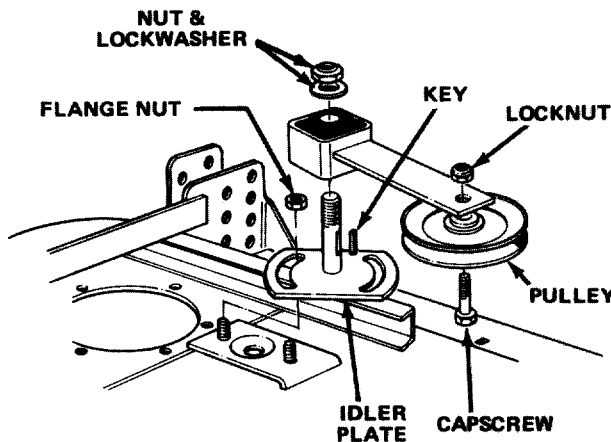

Figure 37
3. Loosen two nuts securing idler plate in place (Fig. 37). Belt tension will be released when nuts are loosened.
4. Remove large nut and flatwasher retaining idler arm on idler plate shaft (Fig. 37). Slide arm off shaft and account for the square key.
5. Remove capscrew and locknut securing idler pulley and arm together (Fig. 37).
5. Remove two flange nuts, holding slotted idler plate in place (Fig. 37).
3. Loosen two nuts securing idler plate so tension of the idler pulley against the belt is released (Fig. 37).